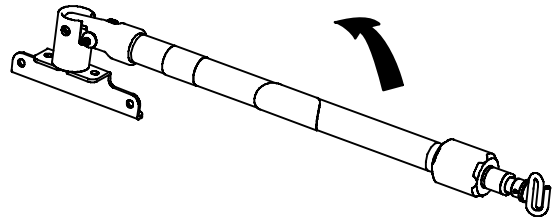

Figure 22 – Two-stage IV pole storage position
- Lift and pivot the IV pole from the storage position. Push down until the IV pole locks into the receptacle (A).
- To raise the height of the IV pole, turn the locking collar (B) counterclockwise and pull up on the telescoping section (C). Raise the IV pole to the desired height.
- Turn the locking collar (B) clockwise to lock the telescoping section (C) in place.
- Hang the IV bags on the IV hook (D).
- Turn the locking collar (B) counterclockwise and slide the telescoping section (C) into the bottom tube.
- Turn the locking collar (B) clockwise to tighten.
- Lift up and pivot the IV pole down into the storage position (Figure 22).